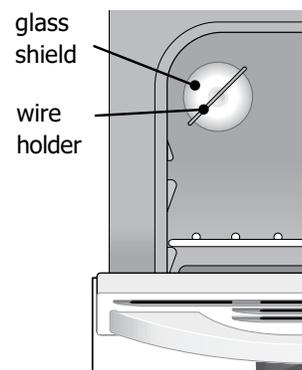

Fig.1
2. Open oven door for access to interior oven light. Once located, press wire holder to one side to release the glass shield (See Fig.1).
1. Open oven door completely (horizontal with floor - See Fig. 1).
3. Fully open the oven door (horizontal with floor - See Fig. 1).